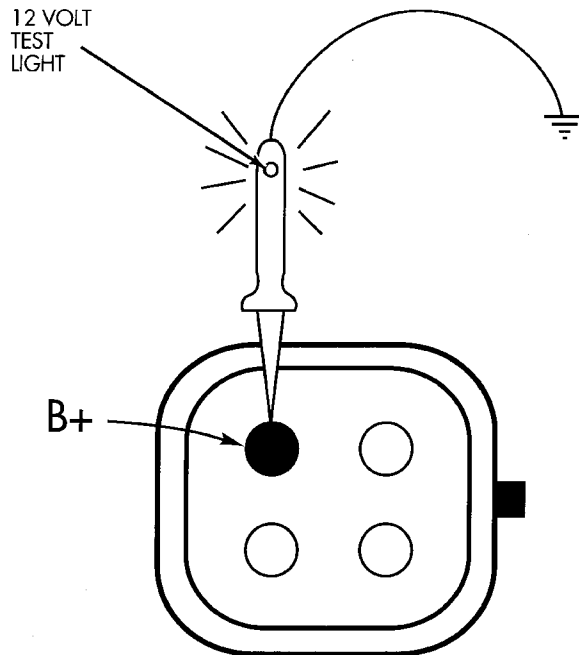

Fig. 22 Ignition Coil Engine Harness Connector
(1) Check battery voltage. Voltage should be approximately 12.66 volts or higher to perform failure to start test.
(2) Disconnect the harness connector from the coil pack.
(3) Connect a test light to the B+ (battery voltage) terminal of the coil electrical connector and ground as shown in (Fig. 22). The B+ wire for the DIS coil is dark green with an orange tracer. **Do not spread the terminal with the test light probe.**